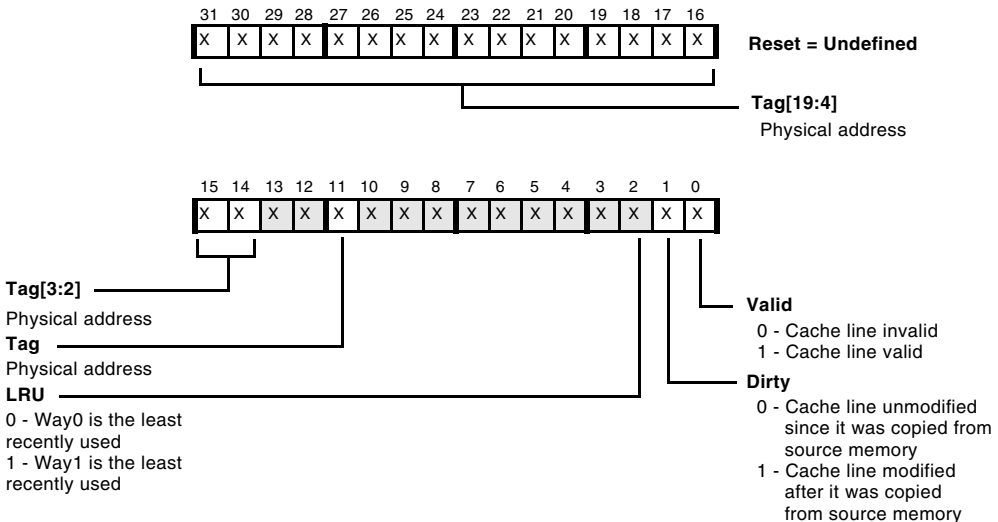

Figure 6-15. Data Test Data 0 Register
- Figure 6-15, “Data Test Data 0 Register,” on page 6-44